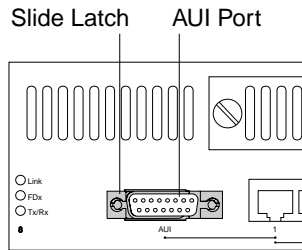

Figure 3-6. Slide Latch on the AUI Port
- Step 2.** The 8271 AUI port has a slide latch that secures AUI cables or media access units. Open the latch by sliding it to the left. The slide latch is shown in Figure 3-6.